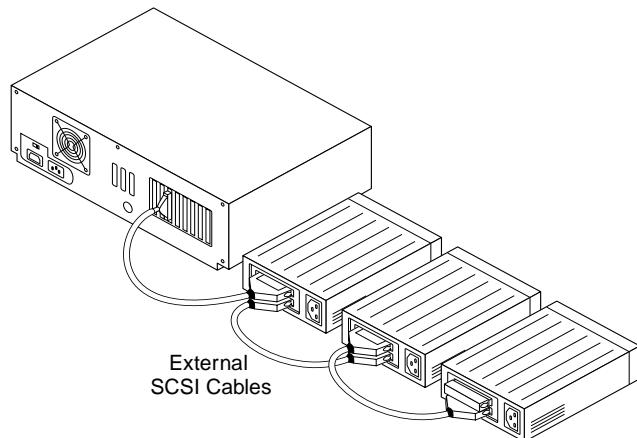

Figure 2-10. Connecting Multiple External SCSI Devices
You can daisy-chain up to seven external SCSI devices to Channel B of the AHA-3940U, and up to 15 external SCSI devices to Channel B of the AHA-3940UW, as shown in Figures 2-10 and 2-13, provided the allowable cable lengths do not exceed those listed in *Maximum Cable Lengths* on page 2-5.
- 3** To connect other external SCSI devices, daisy chain each device to the previous device until all external SCSI devices have been connected, as shown in Figure 2-10.